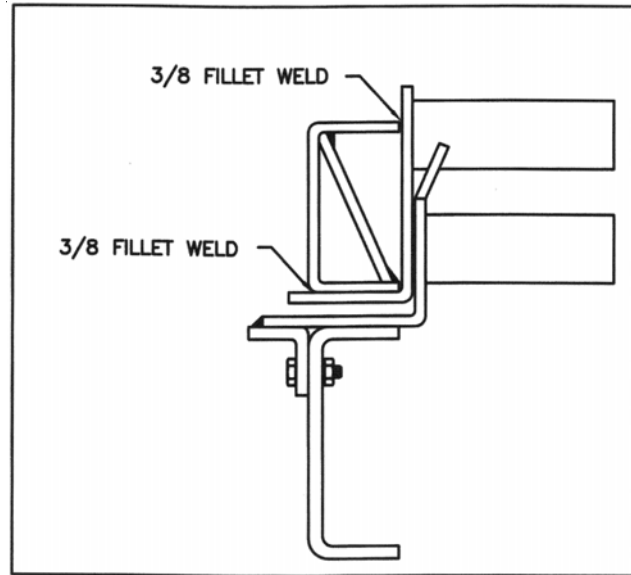

**Figure 13: Stringer Attachment Frame**
A. For bolt-on applications a stringer plate must be welded to the upper mount. This allows the upper mount to be bolted to the long member (see Figure 13). Drill and bolt the stringer attachment plate to the long member. It may be necessary to raise the bed to complete bolting the upper mount.